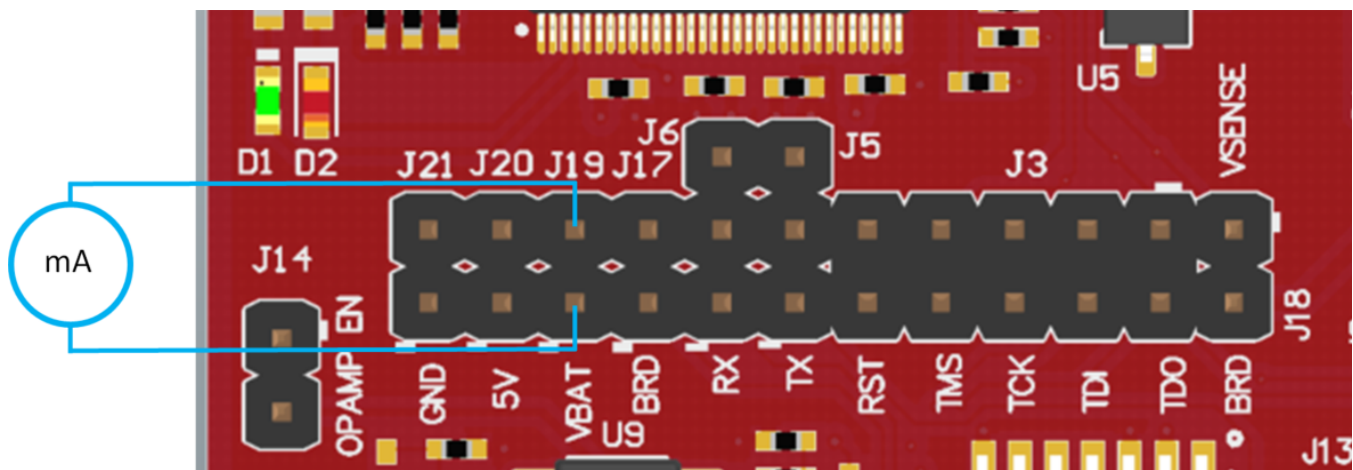

Figure 19. Low-Current Measurement (<1 mA)
1. Remove the VBAT jumper (J19) in the isolation block; attach an ammeter across this jumper, as shown in Figure 19.